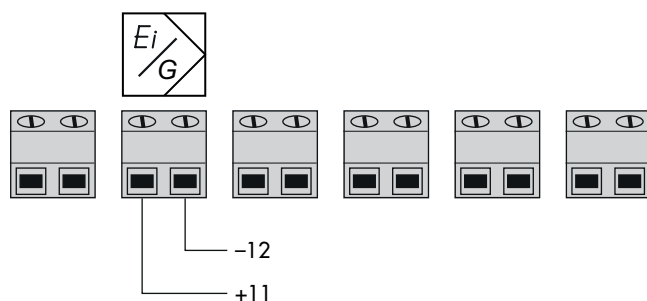

Fig. 5-27: Connecting the mA control signal
- ➔ Connect the electrical power (mA signal) as shown in Fig. 5-27.